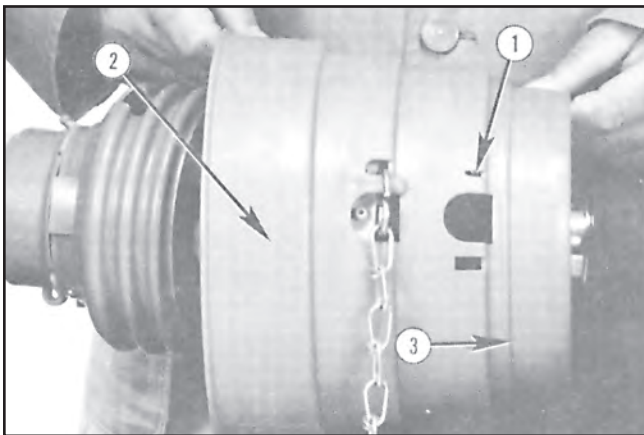

FIGURE 64
1. Refer to Figures 64 and 66, page 31 for removal of necessary PTO shields.